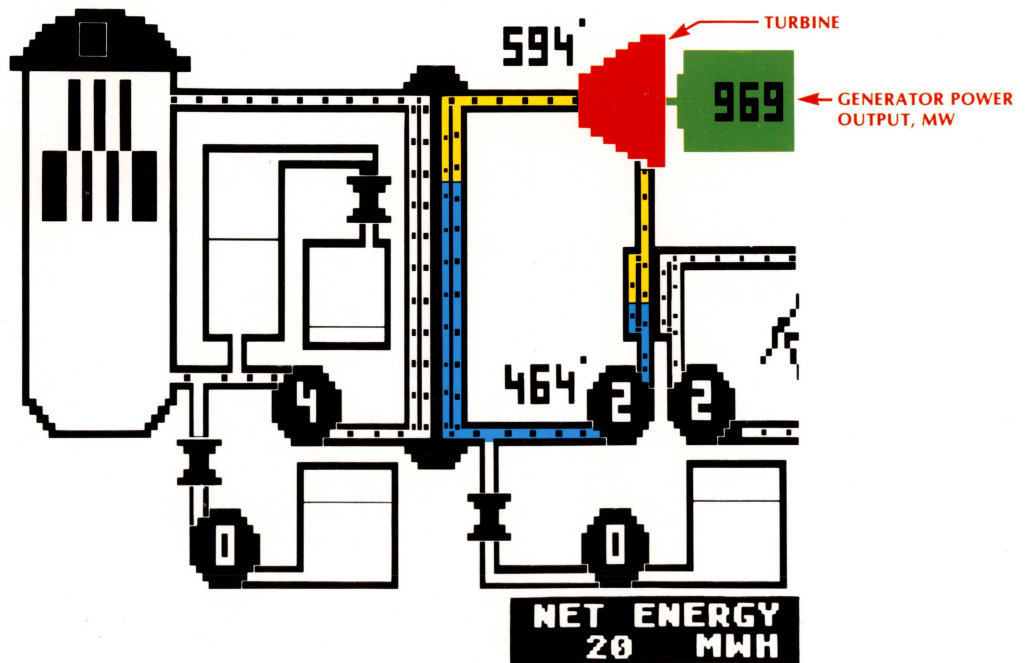

Figure 7. Turbine and Generator
**Turbine and Generator.** A turbine is a giant multilayered fan. If you can visualize a bottle brush spinning inside a bottle, you have a good mental picture of a turbine. The turbine is driven by a combination of "push" from steam entering the turbine and "pull" from steam being drawn into the condenser. The turbine drives the electricity generator, represented by the green rectangle (Figure 7). The rectangle displays the instantaneous power output of the generator, measured in megawatts (MW).